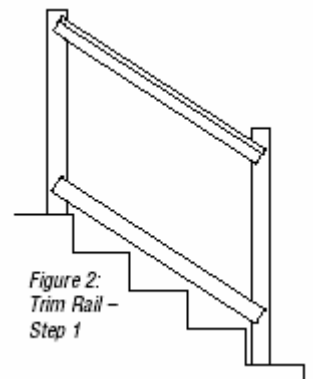
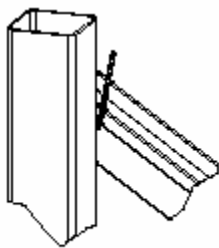
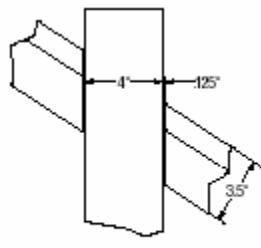

Figure 2:
Figure 3:
Figure 4:
1) To properly fit the rail section, it will be necessary to cut or trim the top and bottom rails of the railing to the angle of the slope. The railing has been pre-routed to allow the railing to "rack" (slope) to the stair system angle. The top and bottom rail sections are strengthened with aluminum "H" channels that will be cut or trimmed along with the vinyl rails. To locate and measure the amount and angle to trim (cut) each end, place the rail section in place with the bottom rail resting on the stair treads directly next to the bottom and top post. See Figure 2 on page 5. Using a marker or pencil, mark the top and bottom rails using the post edge as the guide. See Figure 3 above. In order to insure that the balusters are positioned evenly between the posts, inspect the location and adjust the rail up or down prior to marking the top and bottom rail. The top and bottom rail sections should be trimmed at these angles. However, it will be necessary to cut an additional 1/8" off each rail to install the bracket properly. See Figure 4 above.